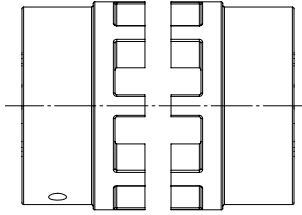

Figure 6 - Checking Hub Teeth are Aligned
1. Rotate both shafts until the hub teeth are properly aligned according to the orientation shown in Figure 6.